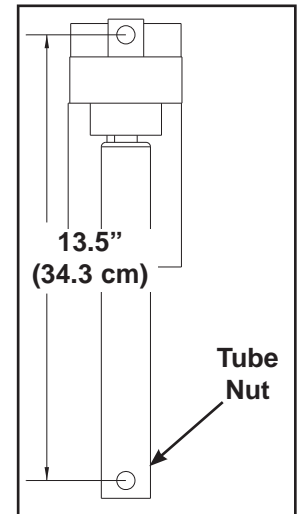

Figure 9
- D. Turn the tube nut with your fingers until it measures 13.5" (34.3 cm) from the center of the top hole to the center of the bottom hole. See Figure 9.